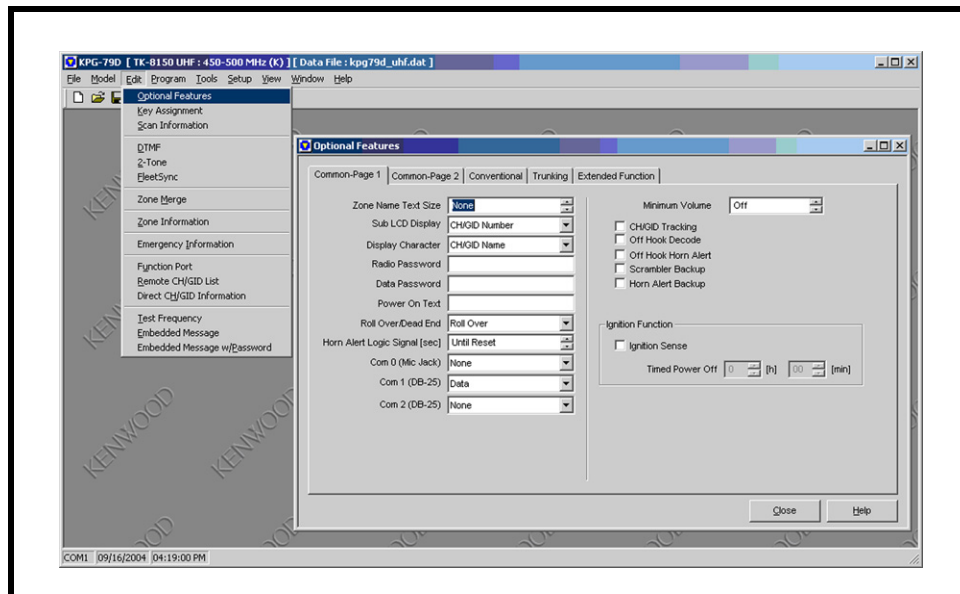

FIGURE 10. TK-x150/180 Com 1
2. Program **Com 1** for DATA. See Figure 10.